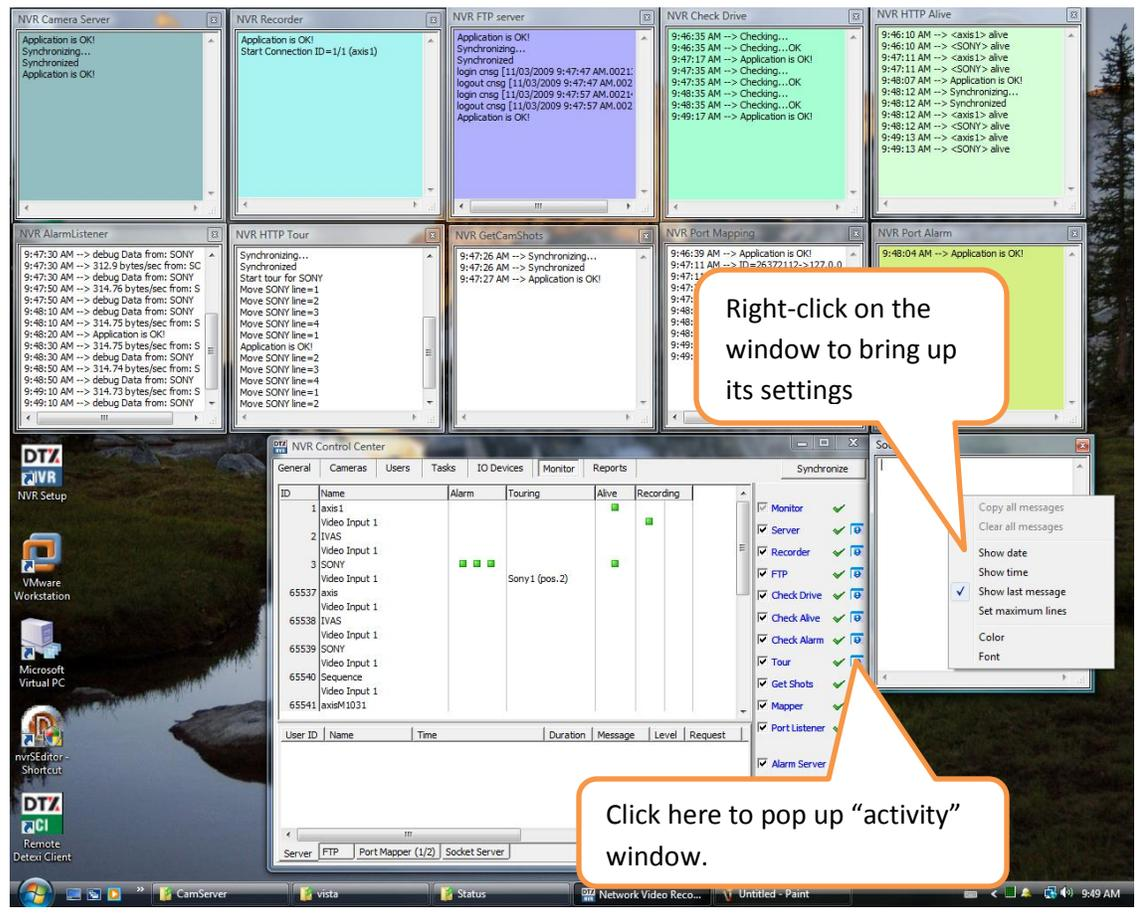

Fig 2. NVR Control Center — Monitor tab (Open "activity" window, change window settings).
- “Activity” tabs and “Activity” windows (Fig 2) are introduced for quality system debugging. The “Monitor” tab and “Activity” windows should be used only when administrator setting up the system or investigating unexpected NVR behavior. The DETEXI system is working much faster when it does not have to send the activity information to the “Activity” windows or/and to “Monitor” tab.